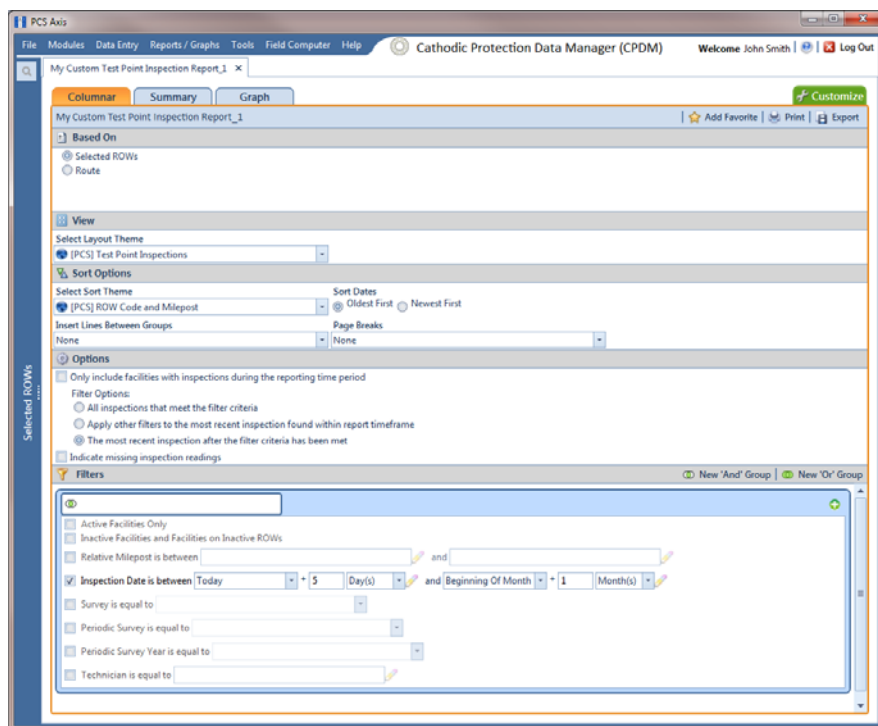

Figure 15-29. Report Options
- 7 When the report options window opens, select one of the following options to choose which facility records to include in the report (Figure 15-29):
- 9 Complete the following steps in the *Sort Options* group box (Figure 15-29, page 645):
- 10 Select one or more of the following options as needed in the *Options* group box. Date range in filter criteria is determined by considering all time frame filters, such as inspection date, survey, and periodic survey filters (Figure 15-29, page 645).